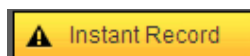

Figure 4-9
- Section 4: Instant record button. Click it, the button becomes yellow and system begins manual record. See Figure 4-9. Click it again, system restores previous record mode.